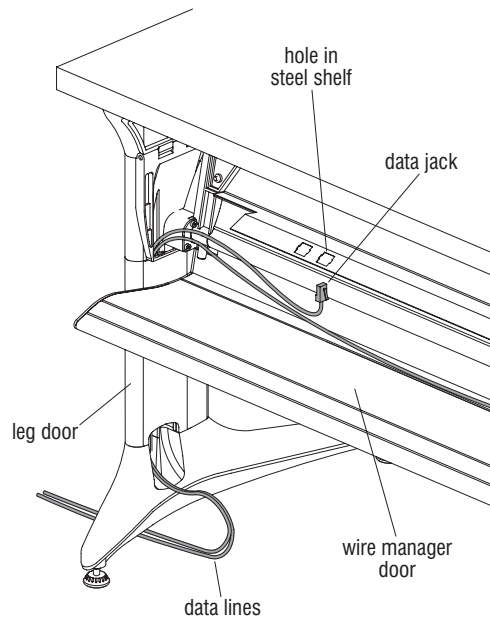

Figure 16
5. Wire the jack appropriately to the data plate and snap the data plate assembly into the appropriate hole of the steel shelf (Figure 16).